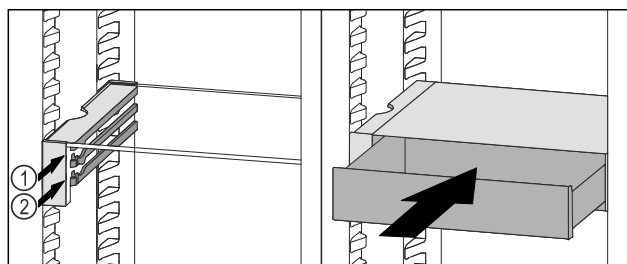

Fig. 129
- Place the VarioSafe drawer behind the stoppers on desired rib *Fig. 129 (1)* or *Fig. 129 (2)*.